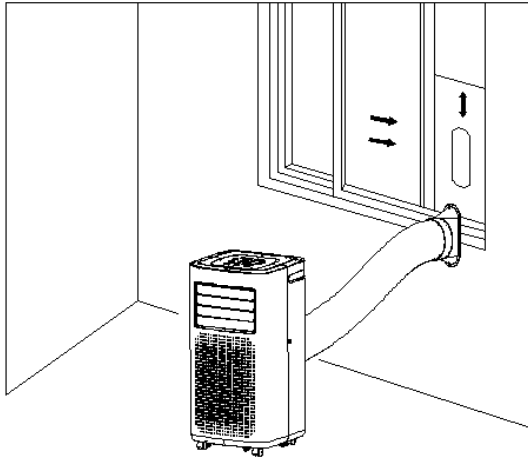

Figure 5
2) Elongate the heat pipe and snap the flat end of the heat pipe joints into the elliptical hole of the window sealing plate assembly (as shown in Figure 5 and Figure 6).